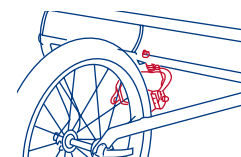
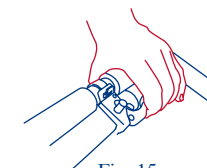

Fig. 14
Fig. 15
Your stroller may come equipped with a caliper brake system. (Fig. 14) The front wheel bicycle style caliper brake system that is designed to assist you in slowing the stroller on a hill or in the event of an emergency. Squeeze the brake handle to slow the stroller. (Fig. 15) The hand brake is not to be used as a parking brake.
- **CALIPER BRAKE SYSTEM:** Squeeze the brake handle to slow the stroller. (Fig. 15) **NEVER** use the hand brake as a parking brake. This feature is only available on Type 1 stroller.